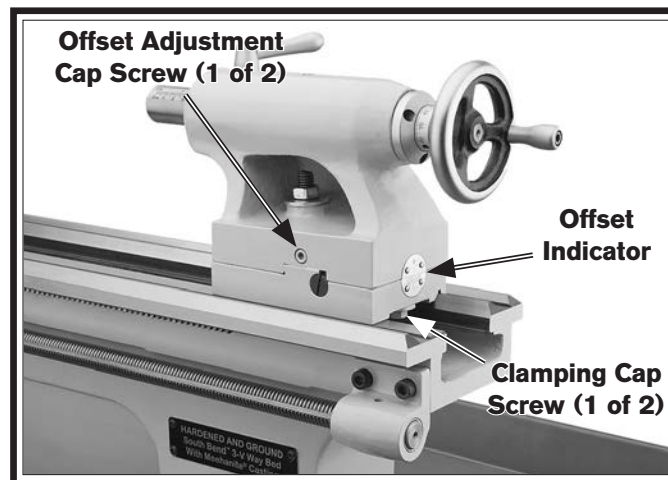

Figure 33. Tailstock offset controls.
1. Loosen the clamping cap screws underneath both ends of the tailstock to release the clamping pressure between the top and bottom castings (see **Figure 33**).